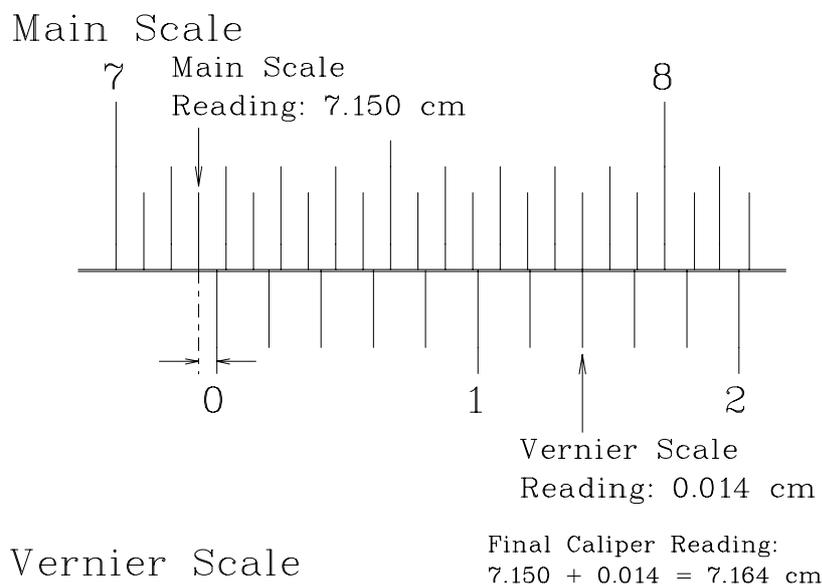

Figure A.2: Example of Vernier Caliper Reading – 7.164 cm
1. Locate the “0” line on the vernier scale, and note which main scale division it is immediately after, e.g. 7.150 cm on the main scale in Figure A.2.
2. Scan along the line where the main and vernier scales meet, and note which *one* vernier scale division is directly in line with a main scale division, e.g. 0.014 cm on the vernier scale in Figure A.2.
3. Add the main and vernier scale readings to obtain the final reading. In Figure A.2 for example,  $7.150\text{ cm} + 0.014\text{ cm} = 7.164\text{ cm}$ .